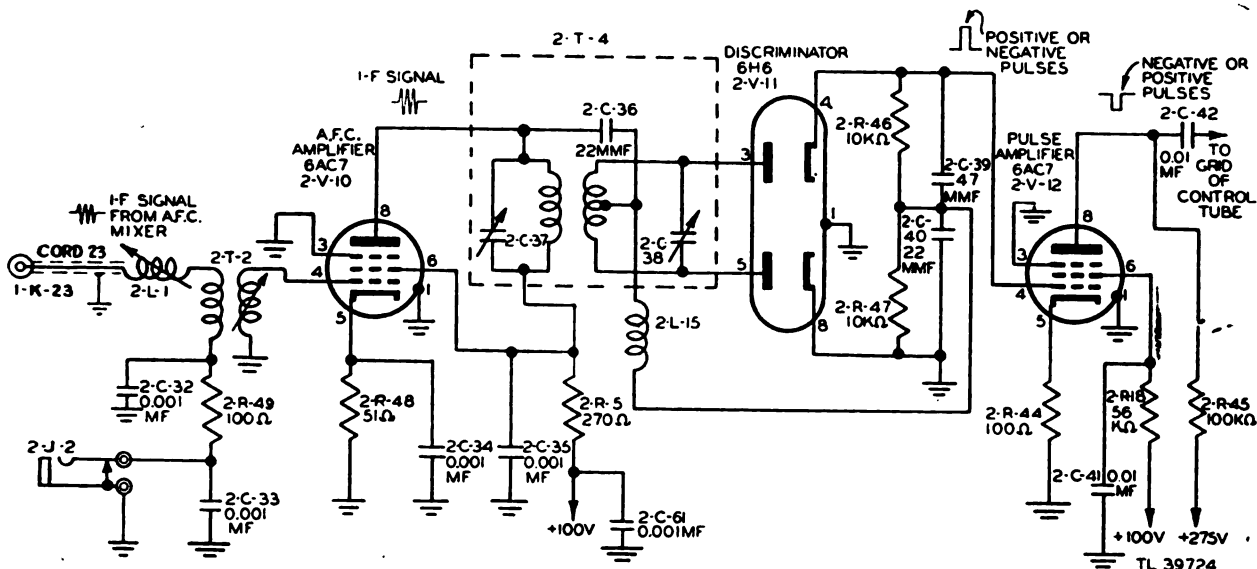

Figure 84. A.F.C. amplifier, discriminator, and pulse amplifier, simplified schematic diagram.
**d. DISCRIMINATOR CIRCUIT.** (1) The discriminator circuit consists of discriminator transformer 2-T-4 and discriminator diode 2-V-11 (6H6) (fig. 84). The signal from the A.F.C. amplifier is inductively coupled to the split secondary of 2-T-4. The input signal is also capacitively coupled through a 22-mmf capacitor (2-C-36) to the center tap of the split secondary winding. The voltage of this split secondary is impressed across the plates of discriminator diode 2-V-11 with the center tap connected through r-f choke 2-L-15 to the center tap of an R-C network in the cathode circuits of the diode. Both tank circuits are sharply tuned to 30 mc. The circuit constants of the tuned tank circuits are so adjusted that, when the frequency fed to the tuned tank circuits is exactly 30 mc, there will be a 90° difference of phase between the signal reaching the plates of the 6H6 tube by means of the coupling capacitor and the signal reaching the plates due to the voltage transfer between the coils.
(7) Note that the filter capacitors 2-C-39 and 2-C-40 are not of the same value. This is to compensate for stray capacitance in the discriminator circuit, and because capacitors 2-C-40 and 2-C-36 (both 22 mmf) are effectively in parallel.
(8) The output of this discriminator diode then is either positive or negative pulses, depending upon whether the intermediate frequency is below or above 30 mc; these are then applied directly to the grid of pulse amplifier 2-V-12.
*e. PULSE AMPLIFIER.* Pulse amplifier tube 2-V-12 (fig. 84) is used to amplify the d-c pulses from the discriminator. It uses as its grid load the R-C network in the output of discriminator diode 2-V-11. Plate voltage for this tube is supplied through the 100,000-ohm plate-load resistor 2-R-45 from the +275-volt source. The screen voltage is applied through the 56,000-ohm screen resistor 2-R-18 from the +100-volt source. The tube is biased by means of the 100-ohm cathode resistor 2-R-44. This resistor is not bypassed and allows degeneration to limit the output of the tube should the input from the discriminator be too large. The output is taken from the plate